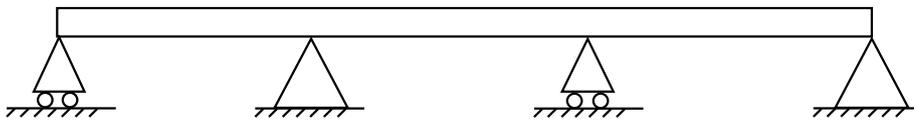

Fig. 7
- 6 (a) Name the type of beam shown in Fig. 7.